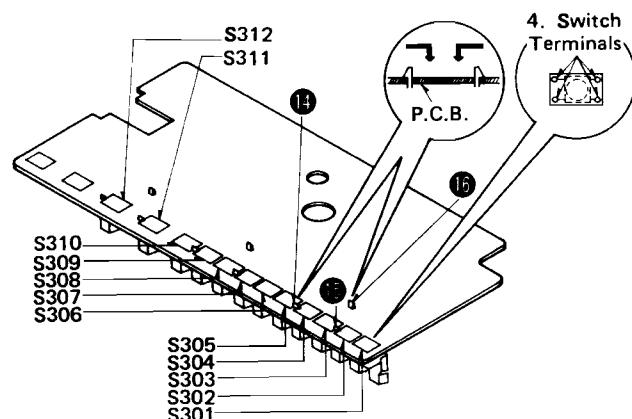

Fig. 8
3. To remove S301~S305, release the 3 switch holder's claws (Fig. 8: 14 ~ 16) and remove the switch holder in the direction of the arrow.
4. Unsolder the 4 switch terminals and remove the switch. (Fig. 8)